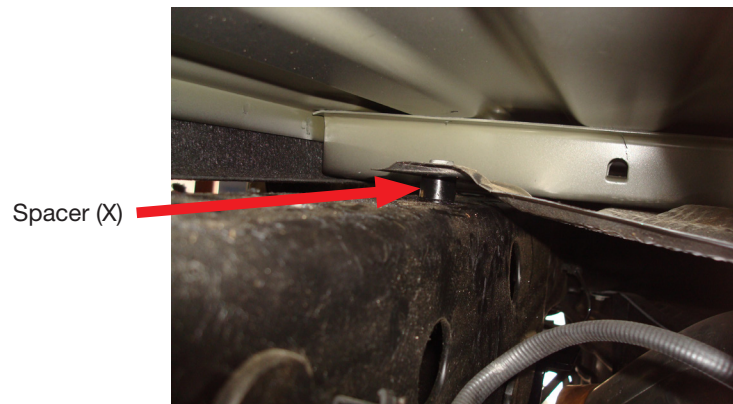

fig. 12
- Set spacer (X) between the frame and heat shield and reattach the heat shield with the stock bolt previously removed (Fig. 12).